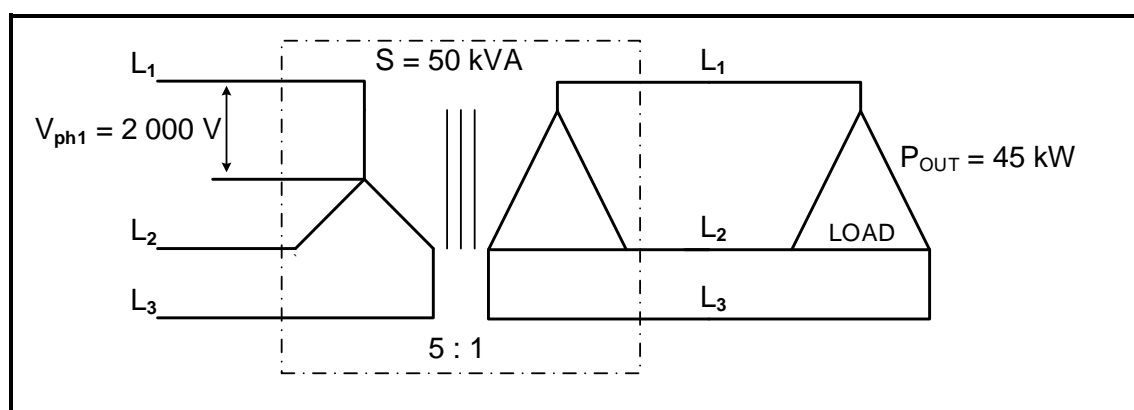

FIGURE 4.7
- 4.7 Refer to FIGURE 4.7 below and answer the questions that follow.